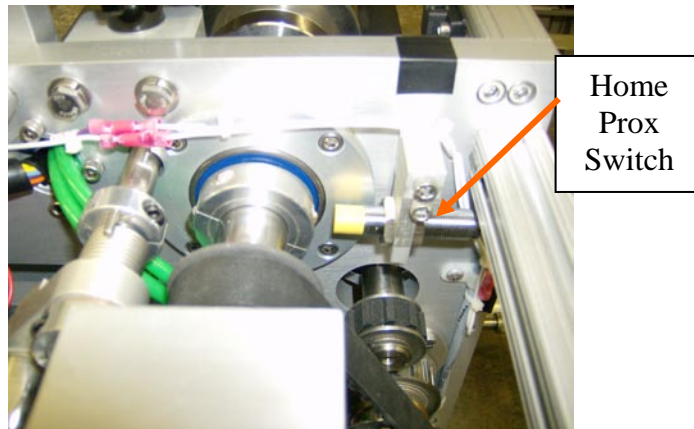

Figure C1: Home Prox Switch
1. Check the HOME prox switch trigger collar for proper adjustment (See Figure C1 and “Printer Maintenance” section of manual).